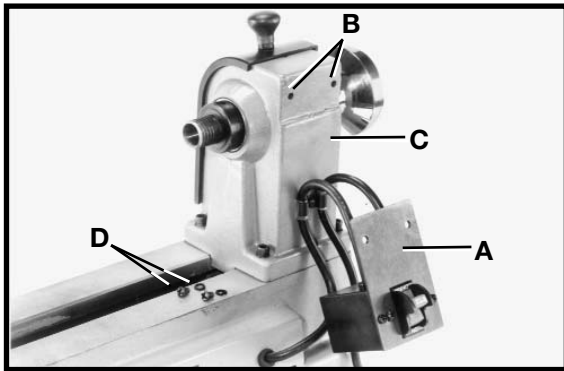
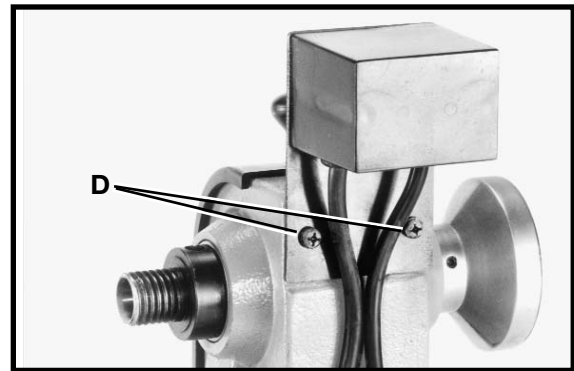

Fig. 2
Fig. 3
To prevent damage to the on/off switch, the lathe is shipped with the switch bracket detached from the rear of the headstock. Attach the switch bracket in the upright position. Align two holes in switch bracket (A) Fig. 2 with the two holes (B) at the rear of the headstock (C), and attach the switch bracket (A) to the machine with two pan head screws (D) and lockwashers (Fig. 3).